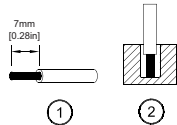

Figure 4
5. Connection (Fig. 4)
You can use flexible (stranded wire) or solid wire with cross section 3.3-5.3 mm² (AWG 12-10) and torque of 0.72Nm (6.3lb in). To secure reliable and shock proof connections, the stripping length should be 7 mm [0.28 in] (see Fig. 4 (1)). Please ensure that wires are fully inserted into the connecting terminals as shown in Fig. 4 (2).